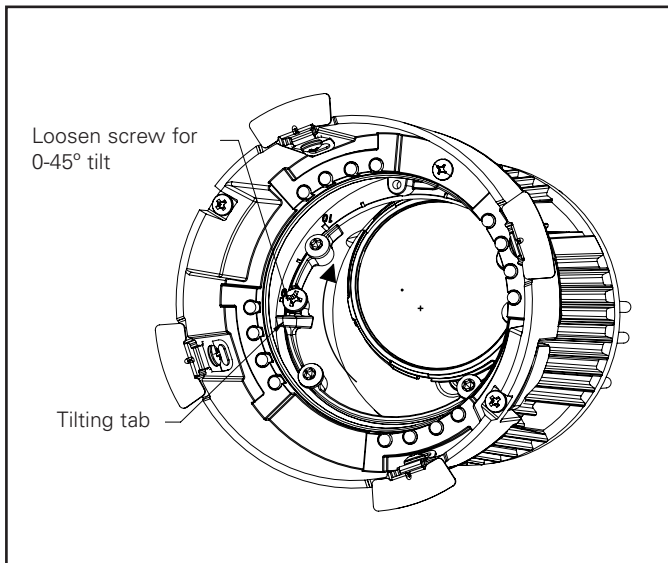

Figure 9A.
1. Loosen the Phillips head angle indicator screw as shown (Figure 9A). Using the tilting tab, rotate the mechanism until the desired tilting angle is achieved using the Phillips screw head as an indicator on the scale.